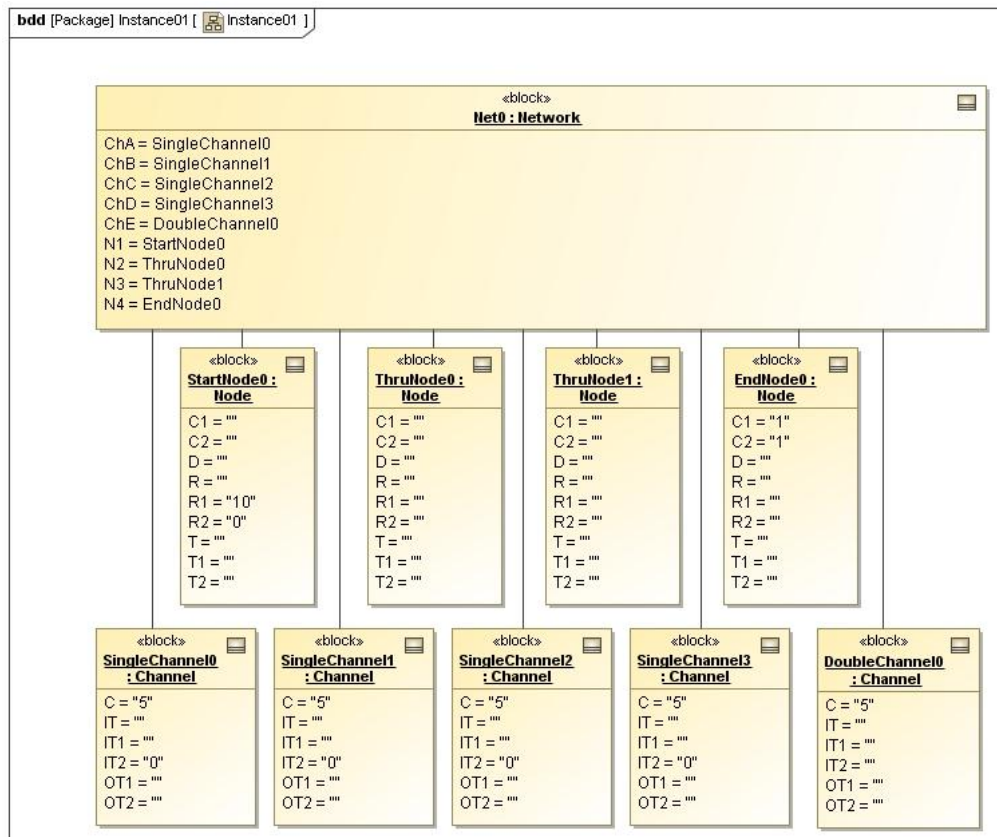

Figure 5.14 Instance01 diagram complete
- ix. Draw connectors from **Net0** to the remaining instances. In each case, assign an appropriate instance to each part property, as shown in Figure 5.14.
- xi. The final contents of **Instance01** diagram should appear as in Figure 5.14.